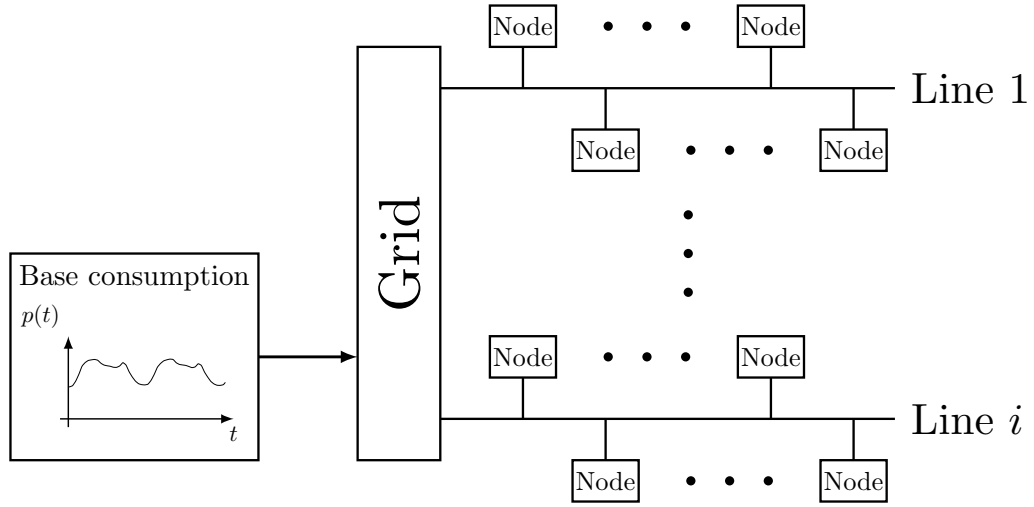

Figure 1.1: Scheme of the modular architecture of *GridSim* simulator.
*GridSim*¹ is an open source simulator developed to analyze the power balances on a virtual electrical grid. Figure 1.1 shows a scheme of its modular architecture. The grid is composed by lines. A line represents a set of nodes with the same features. The nodes are complex elements connected to the lines which can be equipped with different types of consumption, *Distributed Energy Resources* (DER) technologies and control systems. These nodes can represent from a single device which only consumes as a single device to a complex microgrid. In addition, a base consumption function can be added to the grid. It represents an uncontrollable consumption which is added to the aggregated consumption of the simulated grid.